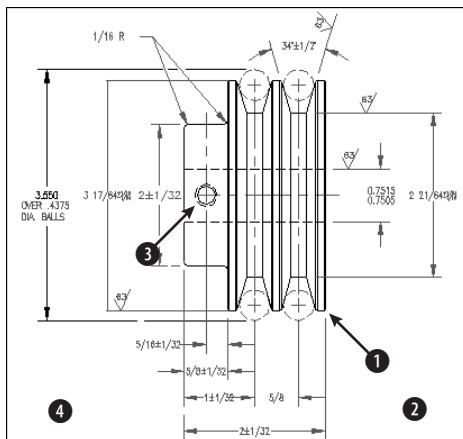

Figure 14-30: A set of pulleys
2. Save the file as `ab14-07.dwg` in your AutoCAD Bible folder. This is a drawing of a set of pulleys, as shown in Figure 14-30. If the Dimension toolbar isn't visible, right-click any toolbar and check Dimension. OSNAP should be turned off.
- Specify first leader point, or [Settings]<Settings>: Pick ❶ in Figure 14-30 (near but not on the drawing object).
- Specify next point: Pick ❷.
- Enter next line of annotation text: TYP (8) PLACES ↵
5. Repeat the QLEADER command. Pick points ❸ and then ❹ in Figure 14-30. Right-click or press Enter. At the Specify text width <2>: prompt, press Enter to use the same width as previously. At the Enter first line of annotation text <Mtext>: prompt, type DRILL 'F' HOLE. Press Enter twice to end the command and place the leader.